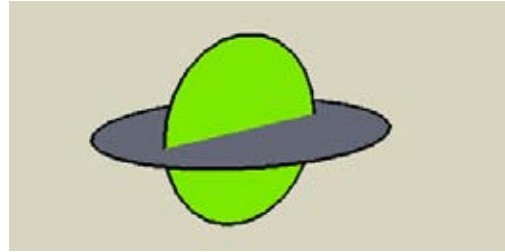

Figure 2-73
4. Make the new circle smaller than the first one (Figure 2-73).